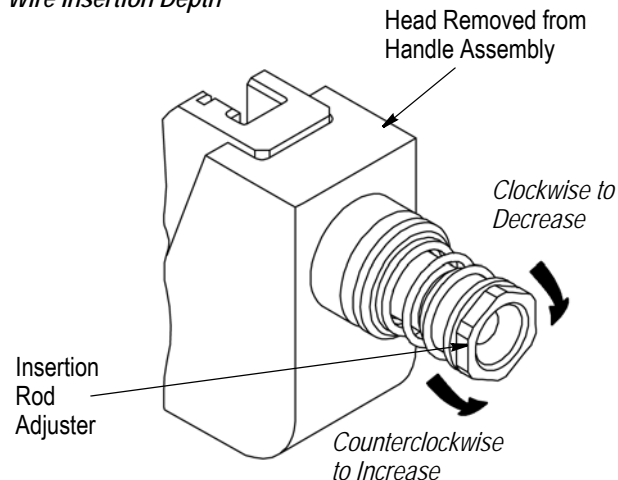

Figure 6
2. If the wires are too deep in the contact slots, turn the insertion rod adjuster clockwise. A 1/6-revolution will decrease the wire insertion depth by approximately 0.20 mm [.008 in.]. If the wires are not deep enough in the contact slots, turn the adjuster counterclockwise. A 1/6-revolution will increase the wire insertion depth by approximately 0.20 mm [.008 in.]. See Figure 6.